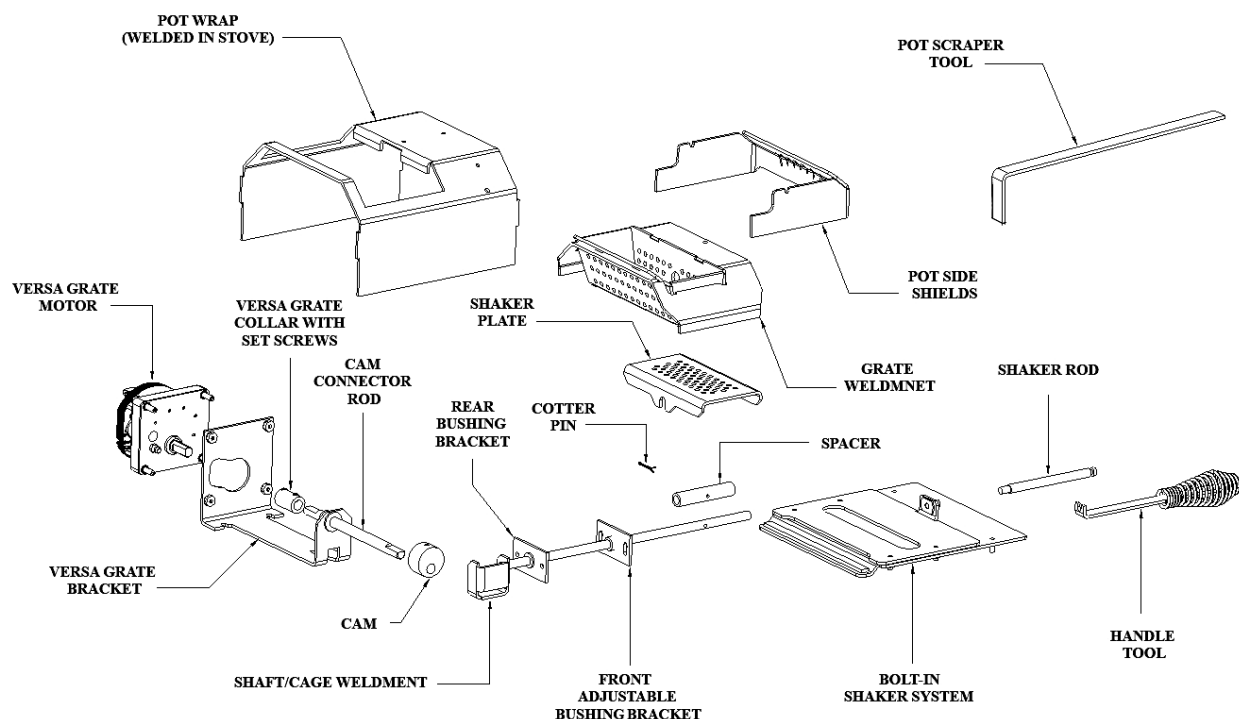

Figure 23
This feature allows the stove to operate for longer periods of time without the grate requiring cleaning. If the flame becomes dark orange, is accompanied by black smoke or burns with a lazy motion - it's time to clean the grate. Frequency of cleaning depends on the amount of fuel being burnt and the quality of the Fuel. Poor quality fuel will require more frequent cleaning of the Versa Grate System shown in figure 23.
- d. Use the “Pot Scraper tool” provided to move the burning pellets to one side of the grate, leaving the ash in the bottom of the grate. (See Figure 23)